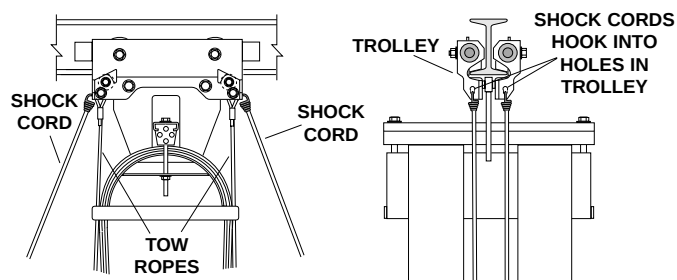

FIGURE 22—SHOCK CORD INSTALLATION
1. Mount two shock cords between each pair of trolleys as shown in Figure 22.